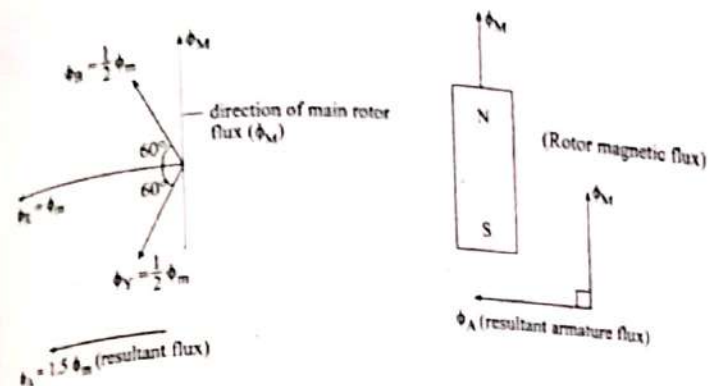

Fig. 1 (e): Resultant of armature flux.
- According to Fig. 1(e), the resultant flux, $\phi_A = 1.5 \phi_m$ whose direction lags by an angle of 90° with the direction of main flux ϕ_M produced by the rotor.
(2) When the load is inductive (Lagging power factor)